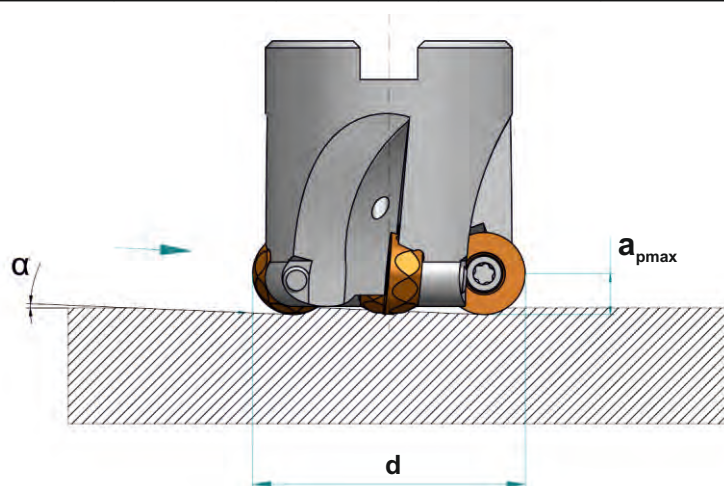

Fig. 2.
2. Maximum angles α [°] of skew penetration in solid material - Fig. 2.